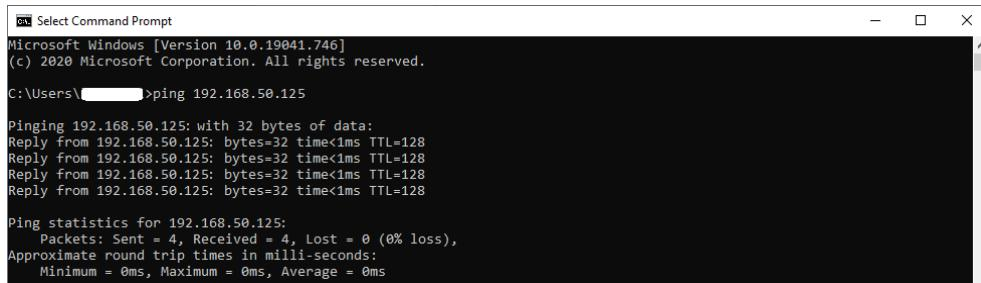

Fig. 8.8: Command prompt window with the command for testing the communication.
3. The user can test if the communication between the PC and the DT5215 is established by opening the "Command Prompt" and typing the same command as in **Fig. 8.8**. If the communication is correctly established, the output message should be similar to that in **Fig. 8.8**.
4. The connection can be tested as in **Fig. 8.8**, this time using the IP address assigned via the DHCP.